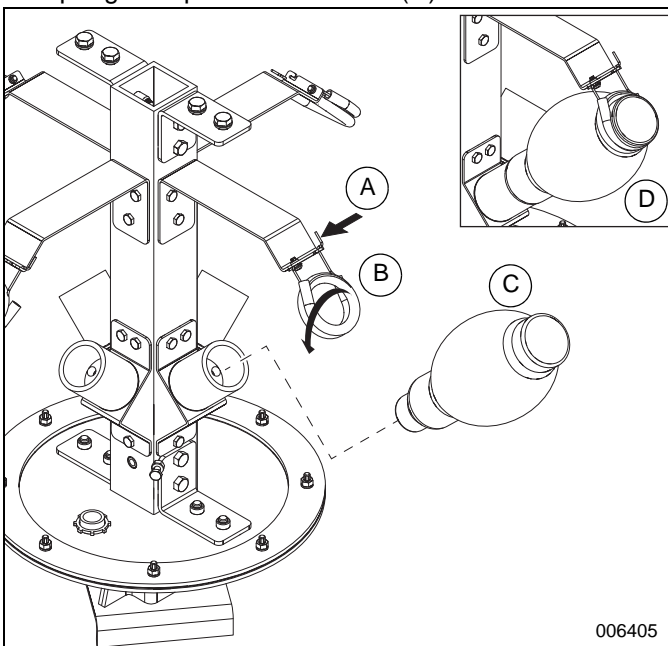

Figure 9. Bulb Installation
- See **Figure 9**. Install bulbs, as follows.
- See Figure 9. Install bulbs, as follows.